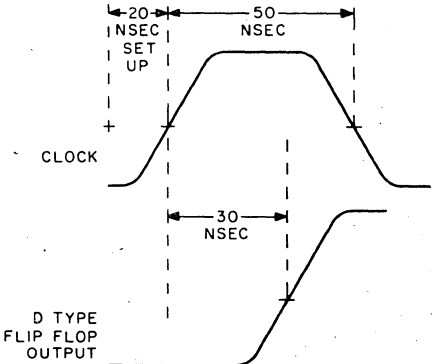

Figure 13. D Type Flip-Flop Timing
**Flip-Flop Propagation Delays:** D type flip-flops trigger on the leading or rising edge of a positive clock pulse; the propagation delay is measured from the threshold point of this edge. The set-up time of the D flop is also measured from this threshold point. Data on the D input must be settled at least 20 nanoseconds prior to the clock transition. The advantage of the D-flip-flop, however, is that the leading edge triggering allows the flip-flop AND gates to propagate while the clock pulse is still high. Figure 13 illustrates this situation.